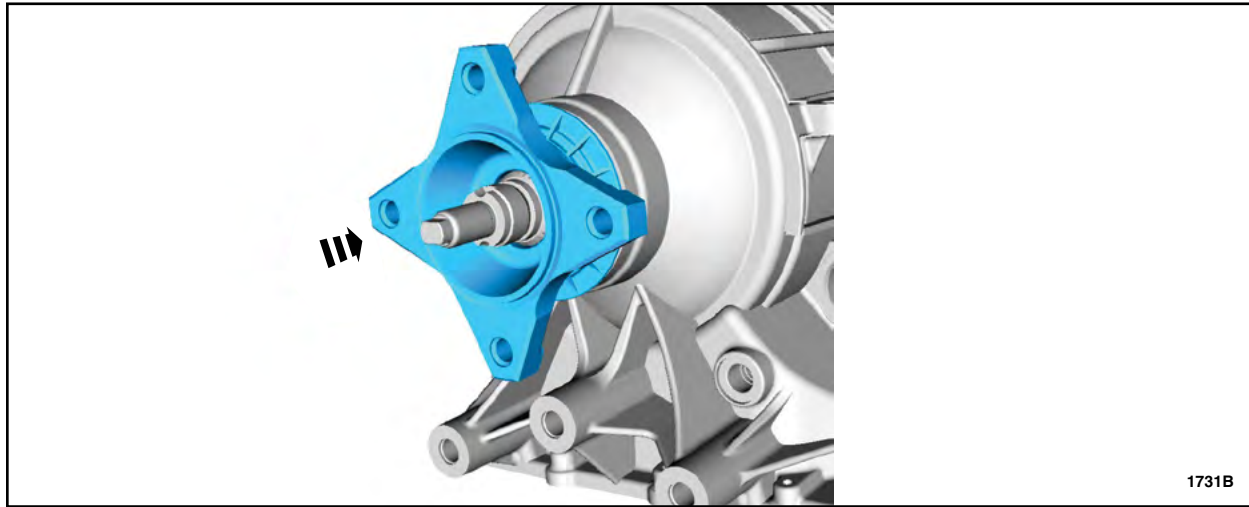

FIGURE 13
- Using a 1/2" drive, 34mm, 12-point deep socket, install a *new* 4-bolt transmission output shaft flange and retaining nut. (See Figures 13 and 14):